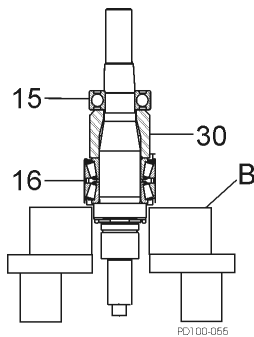

Figure 43 - Remove Bearings From Shaft
10. Use a hydraulic press and V-blocks (Figure 43, item B) to remove the bearings (items 15 and 16) and spacer (item 30).